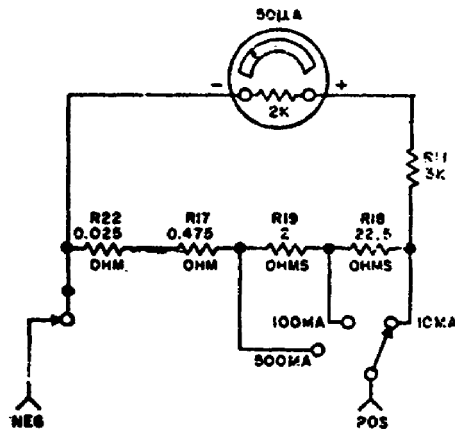

Figure 10. DC ammeter.
f. Figure 10 shows the simplified diagram of a typical DC ammeter. The ammeter circuit must shunt most of the current being measured away from the meter movement. On the 10 milliamper (10mA) range, the meter movement resistance of 2K ohm is in series with the 3K ohm resistance of R11. R17, R18, R19 and R22 are in series with each other and are in parallel with R11 and the meter movement. Resistive values have been selected so that 50µA will flow through the meter and R11 and 9.950mA will flow through R22, R17, R19 and R18 when 10mA is being measured. The truth of this statement can be proved using Ohm's law. Let "x" be equal to the amount of current flowing through the meter when there is a 10mA current input to the circuit. The voltage across both parallel sections of the circuit must be equal so: